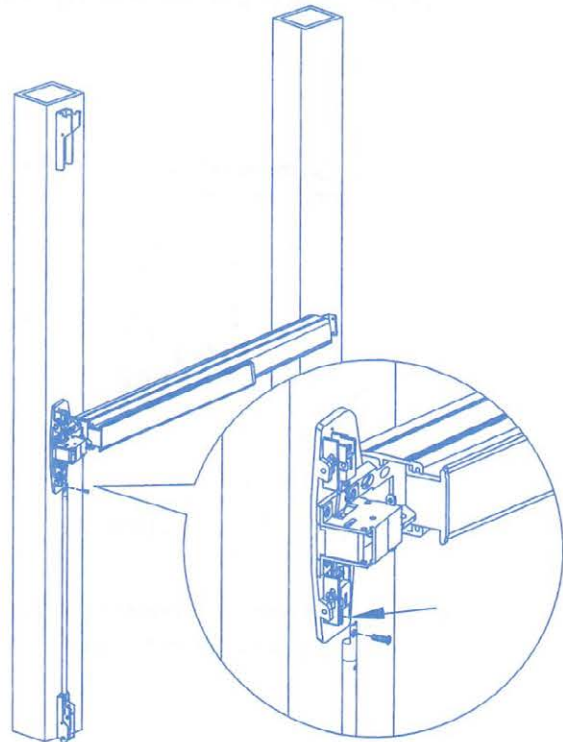

Figure 5
3. Tighten bottom rod on arrow mark position of chassis assembly. (See Fig. 5.)